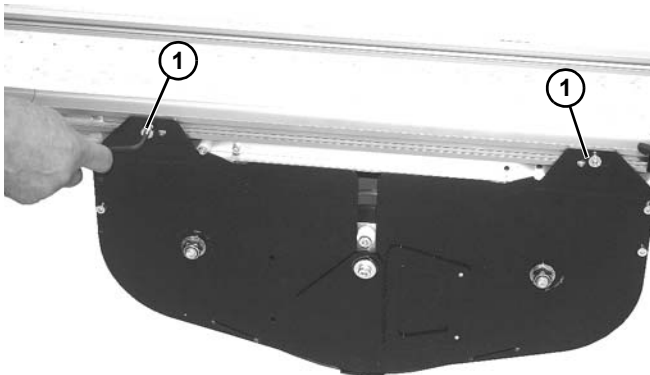

Figure 146
1. Remove two socket head screws (**Figure 146, item 1**) on each side securing assembly to frame.